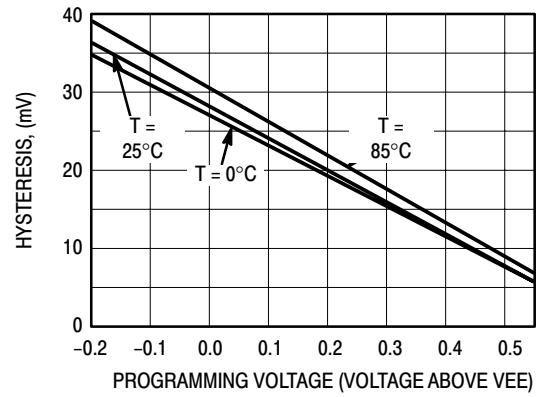

Figure 4. Hysteresis Programming Voltage
10. Refer to Figure 4 and note that the input is at 850 mV ECL levels with the input threshold range between the 20% and 80% points. The delay is measured from the crosspoint of the input signal and the threshold value to the crosspoint of the Q and  $\bar{Q}$  output signals.